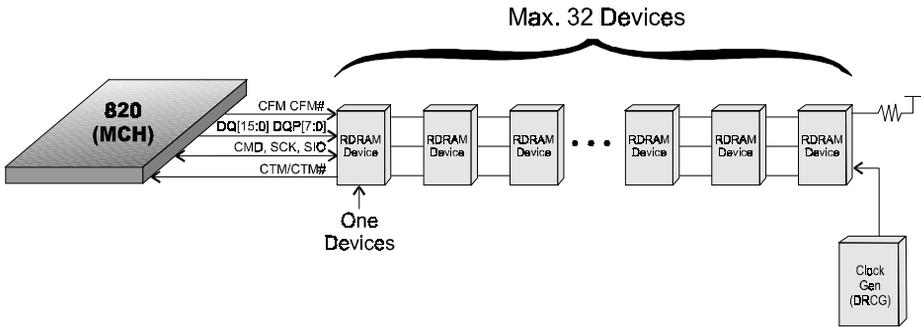

Figure 7: MCH/RDRAM Interconnections
- The EP-3C2A/3C2A2 supports a maximum of 32 devices on a RDRAM channel A Channel as defined as the three RIMM Slots on the motherboard added together. Thus the motherboard has one channel. See Figure 7 for RDRAM interconnections.
The figure 7 below shows the RSL interconnections between 820 (MCH) and one RDRAM channel. This figure describes the logical interconnections, and is not a physical representation of RDARM devices on a motherboard.